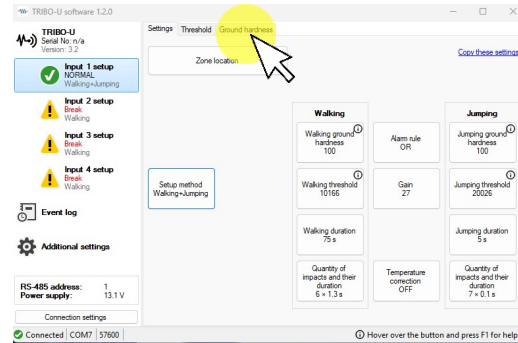

Fig. 28
- On the program screen click on the Ground Hardness tab (Fig. 28).